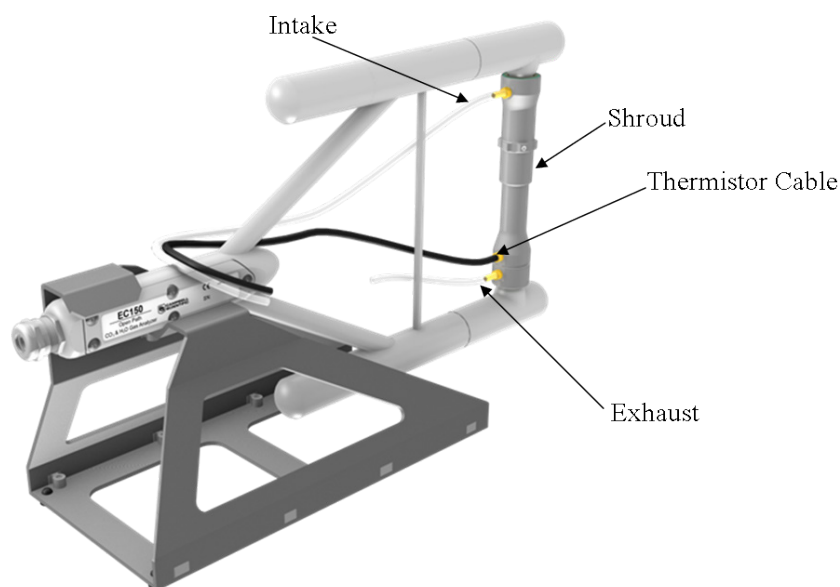

FIGURE 7-1. Zero-and-span shroud mounted on the zero-and-span stand
If the zero-and-span procedure is being performed off site (for example, in a laboratory), be sure to mount the EC150 on the zero-and-span stand (refer to FIGURE 7-1). This will ensure the analyzer is in the correct upright orientation and has the correct optical alignment.
4. Position the EC150 zero-and-span shroud over the upper and lower snouts. See FIGURE 7-1 for guidance with the following steps.
- e. Hang the lines and cable over the trunk of the sensor to alleviate any strain on the optical arms. See FIGURE 7-1.